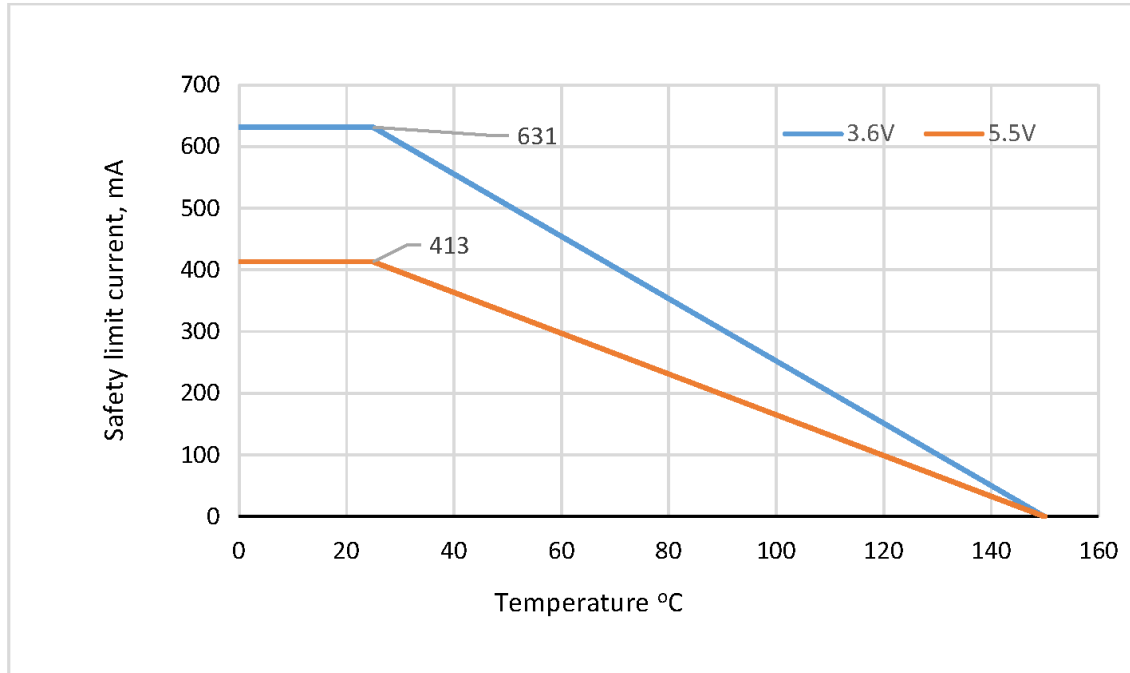

Figure 4.5. WB SOIC-16/20 Thermal Derating Curve Dependence of Safety Limiting Values per VDE 0884-10
1. Maximum value allowed in the event of a failure. Refer to the thermal derating curve in Figure 4.5 WB SOIC-16/20 Thermal Derating Curve Dependence of Safety Limiting Values per VDE 0884-10 on page 27.